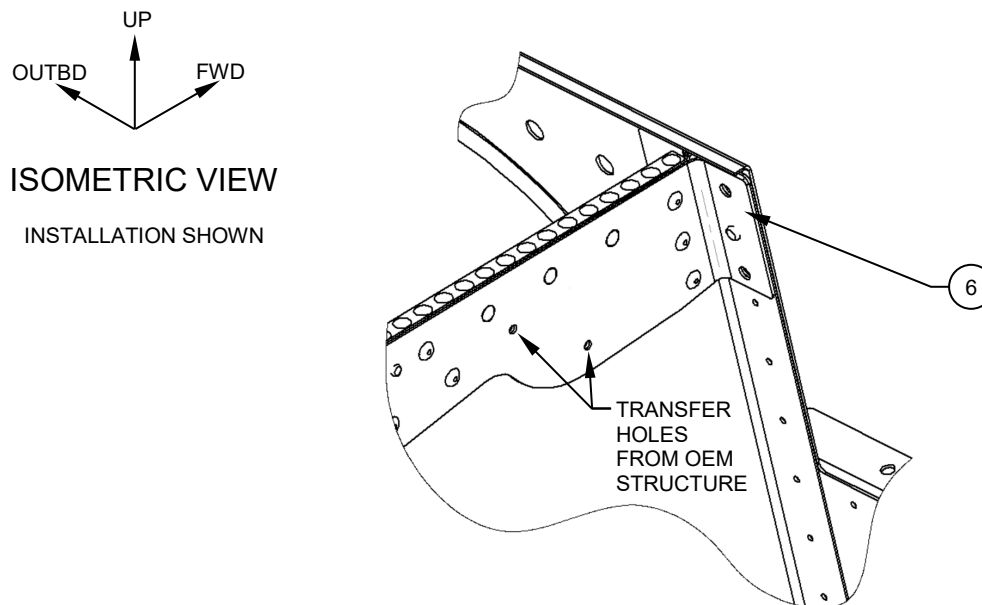

Figure 26
5.2. Back drill the lower and AFT mounting holes for the OEM defrost fitting, from the OEM structure thru the RHS Angle, Assy, (Item 6), using a #30 drill. See Figure 26.